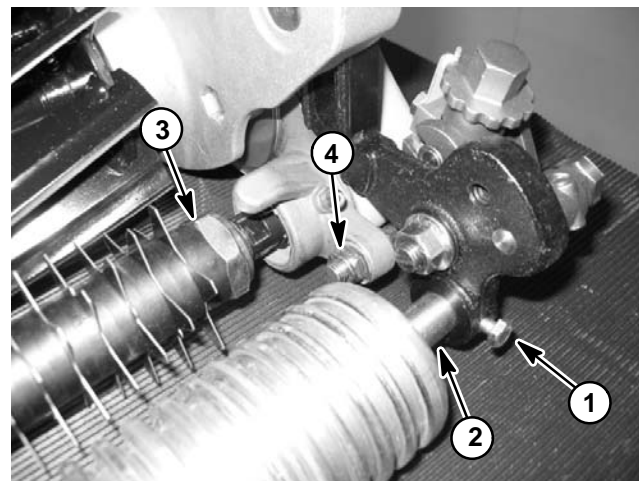
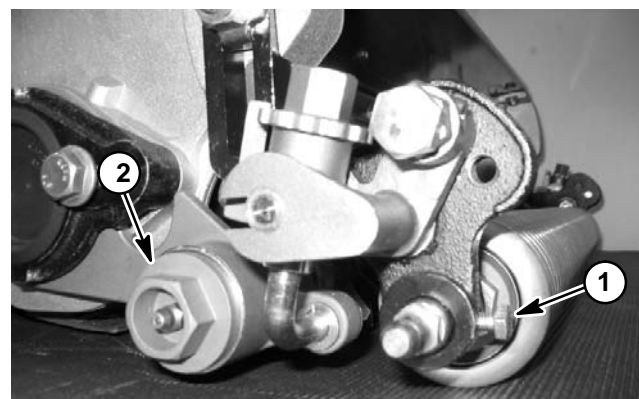

Figure 7
Figure 8
4. Remove groomer belt cover (item 3) and groomer drive belt (item 36) from groomer drive side of mower (see Groomer Belt Replacement in this section).
5. Loosen cap screws (item 20) that secure front roller shaft to groomer arms (Figs. 7 and 8).
6. Remove lock nut (item 25) and spring washer (item 24) that secure drive side groomer arm lift rod to drive side plate (Fig. 7).
7. Remove lock nut (item 35), tab washer (item 34) and plow bolt (item 27) that secure drive side groomer arm assembly to drive side plate. Do not change height-of-cut screw adjustment. Remove drive side groomer arm assembly from cutting unit.
9. Remove the flange nut (item 17) that secures driven pulley (item 32) to groomer shaft. Remove driven pulley from shaft. Locate and retrieve square key (item 31) that locates pulley on shaft.
10. Remove flange head screw (item 4) and washer (item 5) that secure drive pulley (item 7) to the cutting reel shaft. Slide drive pulley from cutting reel.
11. Remove two shoulder nuts (item 8) that secure the groomer drive side plate (item 10) to the cutting unit frame. Remove the groomer drive side plate assembly.
12. Remove the cap plug (item 21) from non-drive side plate (Fig. 8).
5. Carefully place drive side plate onto groomer shaft taking care not to damage seals in side plate. Position side plate to the cutting unit frame and secure with two shoulder nuts (item 8).
7. Apply anti-seize lubricant to threads of flange head screw (item 4) used to attach drive pulley to reel shaft. Secure drive pulley to reel with washer (item 5) and flange head screw.
8. Place square key (item 31) in groomer shaft slot and install driven pulley onto the groomer shaft. Thread flange nut (item 17) onto the shaft threads.
9. Secure groomer reel by holding the flange nut (item 17) on one end of the reel and tightening the flange nut on the other end of groomer shaft. Torque flange nuts from **100 to 120 in-lbs. (11.3 to 13.6 N-m)**.
10. Apply Loctite #242 (or equivalent) to threads of cap plug (item 21). Install cap plug into non-drive side plate and torque cap plug from **60 to 80 ft-lbs. (81 to 108 N-m)** (Fig. 8).
13. Apply antiseize lubricant to threads of lift arm assembly stud on groomer arm. Install spring washer (item 24) and lock nut (item 25) to secure drive side groomer arm assembly to groomer side plate (Fig. 7).
14. Center front roller and tighten cap screws (item 20) to secure roller (Figs. 7 and 8).